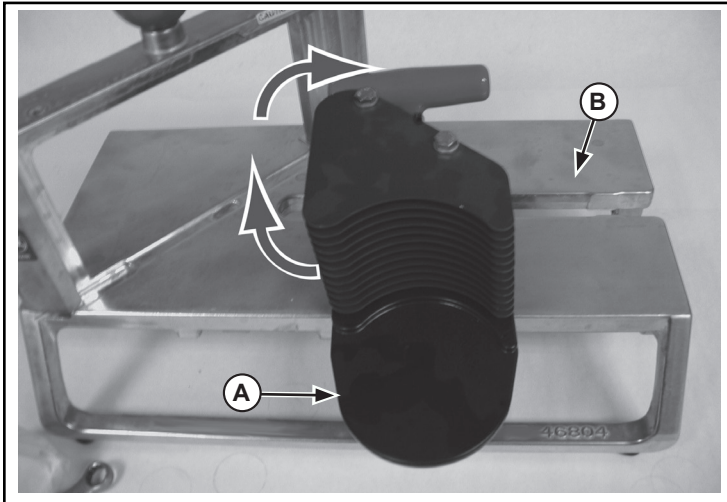

Figure 4. Installation of Pusher Head
- Slide the new pusher head (A) handle first into the slot (B) and rotate until it is in the operating direction. See Figure 4.